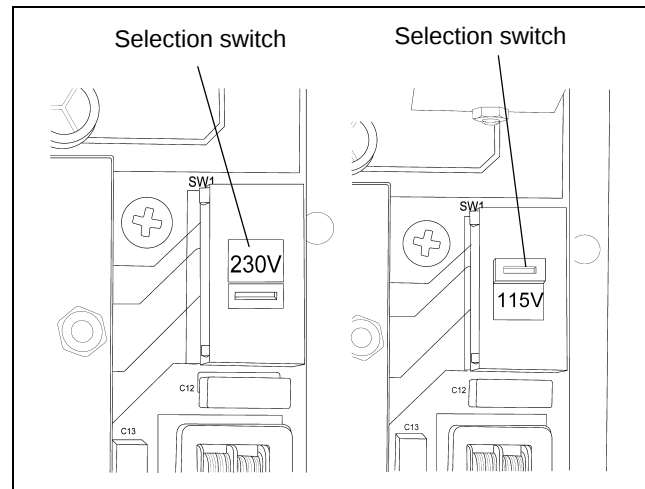

Figure 7K A) Selection switch set to 230V.
4. Move the power selection switch to 115V or 230 VAC position. (See Figure 7K.)